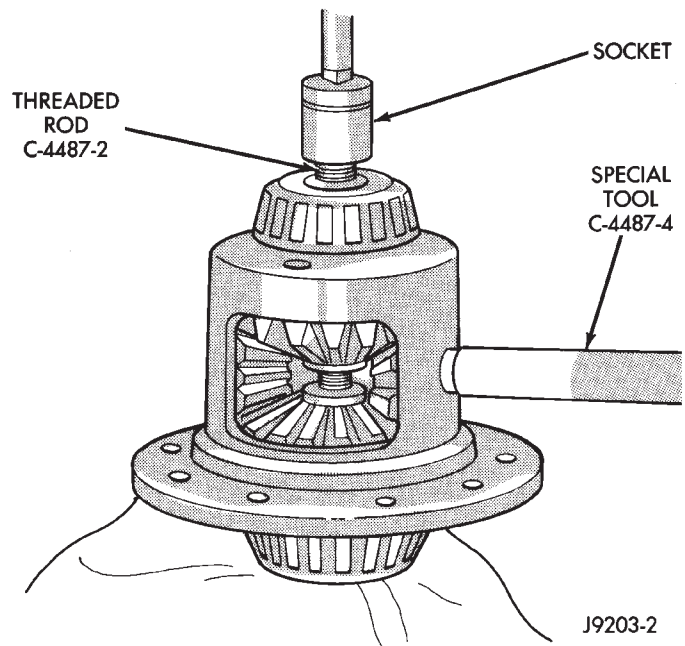

Fig. 12 Pinion Gear Removal
(10) Loosen the forcing screw tool until the clutch pack tension is relieved.
(11) Insert Turning Bar C-4487-4 in case. Rotate case with tool until pinion gears can be removed (Fig. 12).